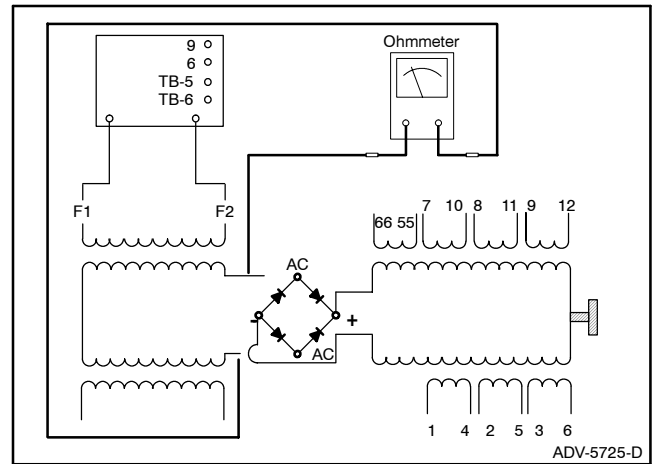

Figure 5-34 Exciter Armature Ohmmeter Test (10/12RZ Shown)
2. With an ohmmeter on the R x 1 scale, check resistance across exciter armature leads. See Figure 5-34. The armature resistance should be 0.6–0.8 ohms (continuity). No continuity indicates an open armature winding. If the resistance test proves inconclusive, perform a megohmmeter test on the exciter armature as described in the next step.